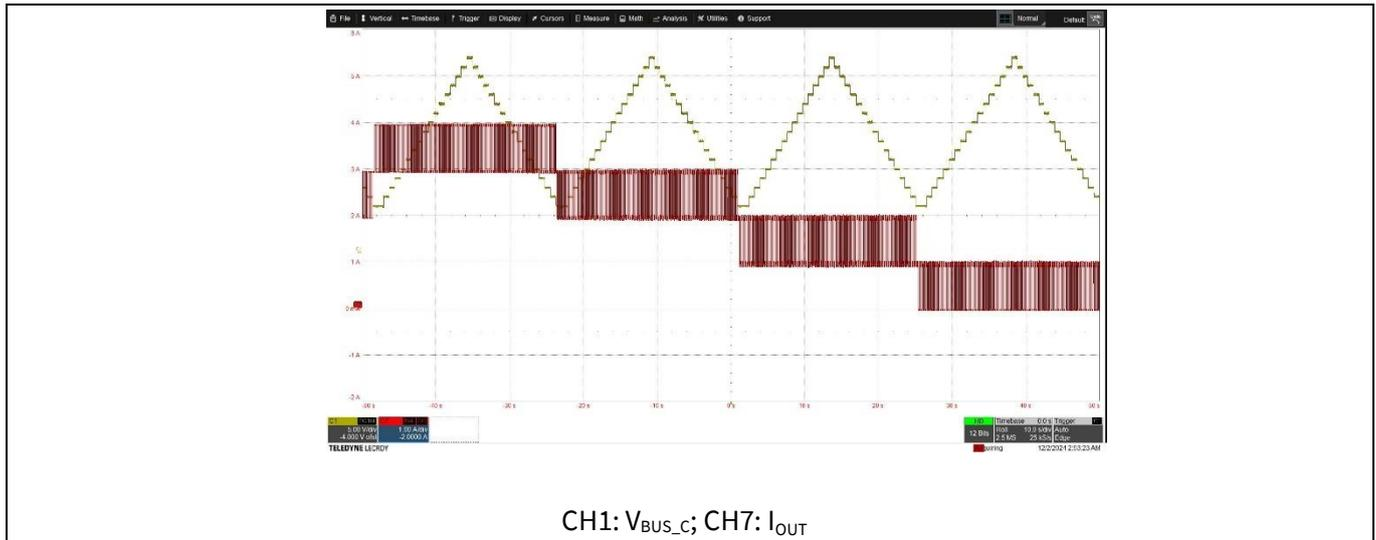

Figure 28 $V_{IN} = 22.5 V_{DC}$; V_{BUS_C} – continuously changing from 5.0 V–21 V (PPS) and vice versa; $I_{OUT} = 0 A$ to 4 A with 1 A step
- Electrical stress test #1** $V_{IN} = 22.5 V_{DC}$; V_{BUS_C} – continuously changing from 5.0 V–21 V with 1 V step and vice versa (PPS); $I_{OUT} = 0 A$ to 4 A with 1 A step for a duration of 60 minutes. Captured waveforms are shown in Figure 28